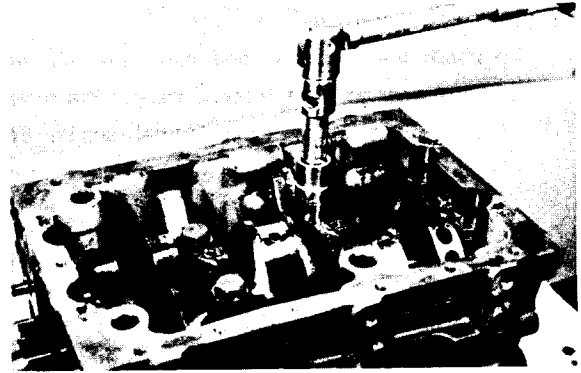

Figure 91
4. Remove the main bearing caps (Fig. 91). Keep each set of bearings together with its bearing cap.